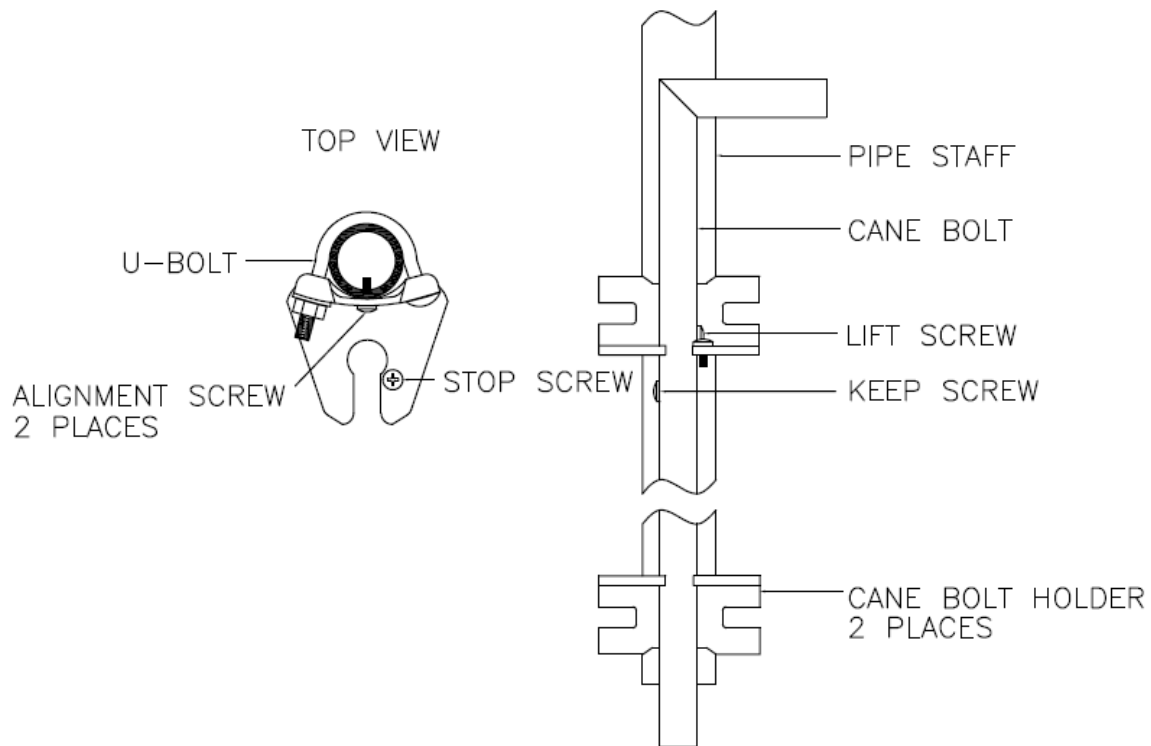
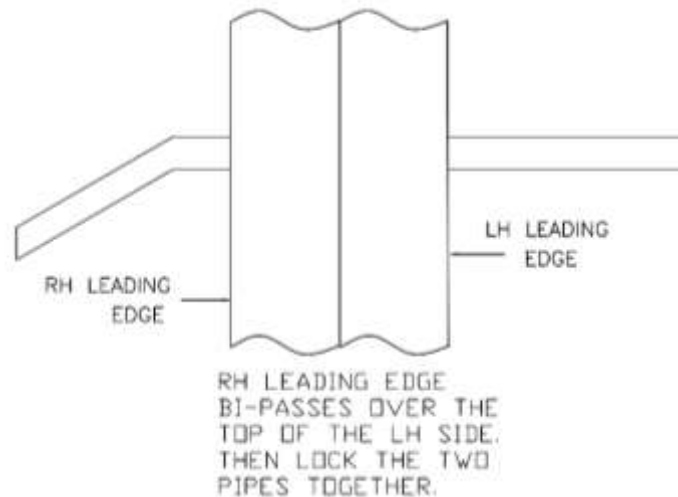

FIGURE 2
FIGURE 5
The two pipe staffs with the center locking holes approximately 4 or 6 feet up (See Fig. 5) slide into the pockets at the ends of the curtains, these are the leading edges of the doors. One of these pipe staffs has alignment holes marked in red and are used for the cane bolt brackets and is the RH leading edge. The other doesn't and is installed on the LH leading edge. The other pipe staffs will have pre-drilled alignment holes marked in red. They slide into the remaining pockets of the curtain. For curtains with more than two pipe staff, line up the pre-drilled holes on the cane bolt holders with the pre-drilled holes on the pipe staff. Fasten the two cane bolt holders with (2) #10-24 x 1/2 screws to the pipe staffs, (the top cane bolt holder has a stop screw and the bottom does not. (See Fig. 2). Use the U-bolts to secure the brackets to the pipe staff. Remove the keep screw from the cane bolt, slip the cane bolt into the holders and reinstall and tighten keep screw, this locks the cane bolt into the holder.
7. Pull the RH side of the door past the LH side of the pipe staff and lock the two pipe staff together. (See Fig. 5).